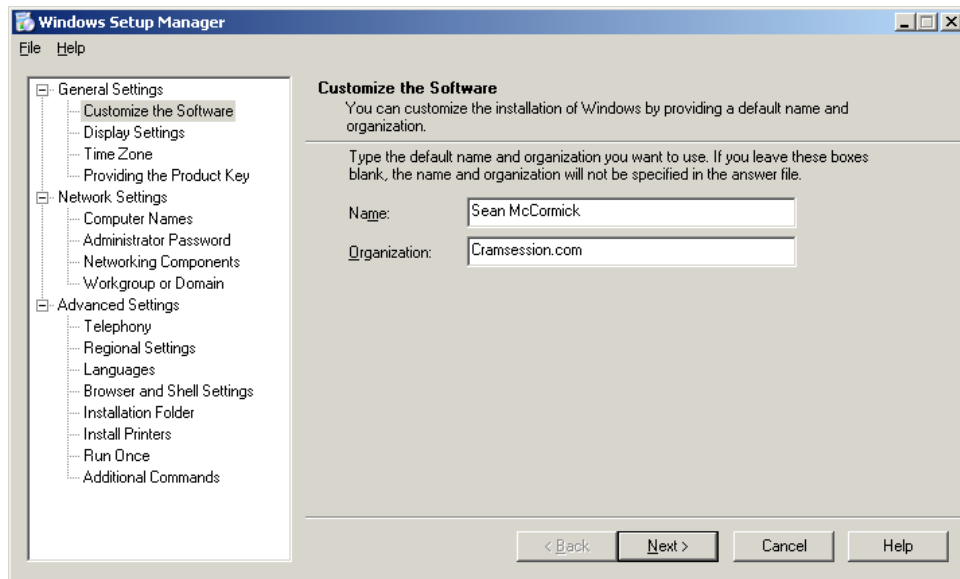

Figure 1 - The Setup Manager Wizard
- Answer files can be created manually using a text editor or by using the Setup Manager Wizard (SMW) that is shown in *Figure 1*.